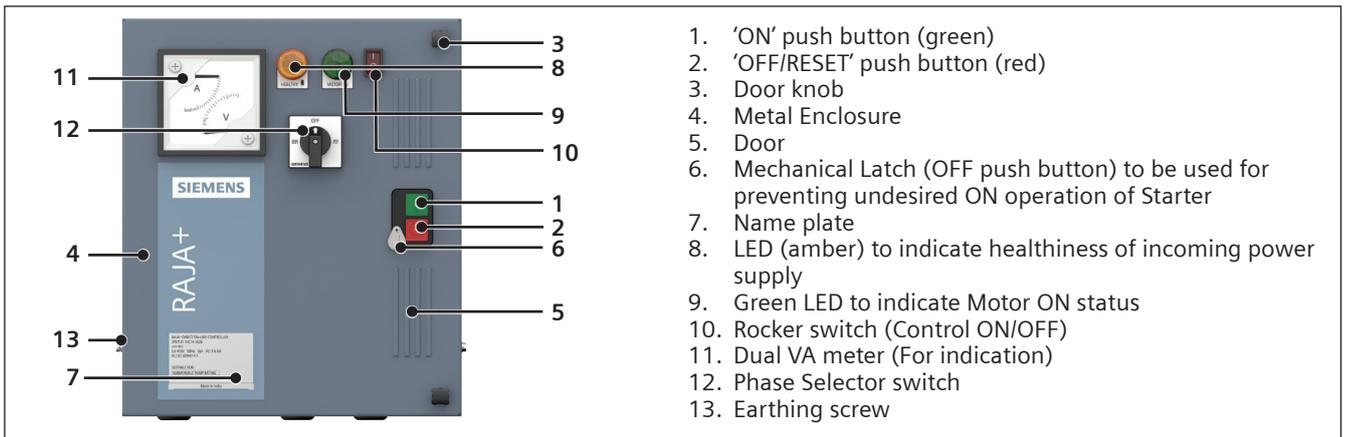

Fig. 1: DOL Controller with WLC
- For starting the motor, press Green push button marked 'I' (Fig. 1).
- For stopping the motor press Red push button marked 'O' (Fig. 1).